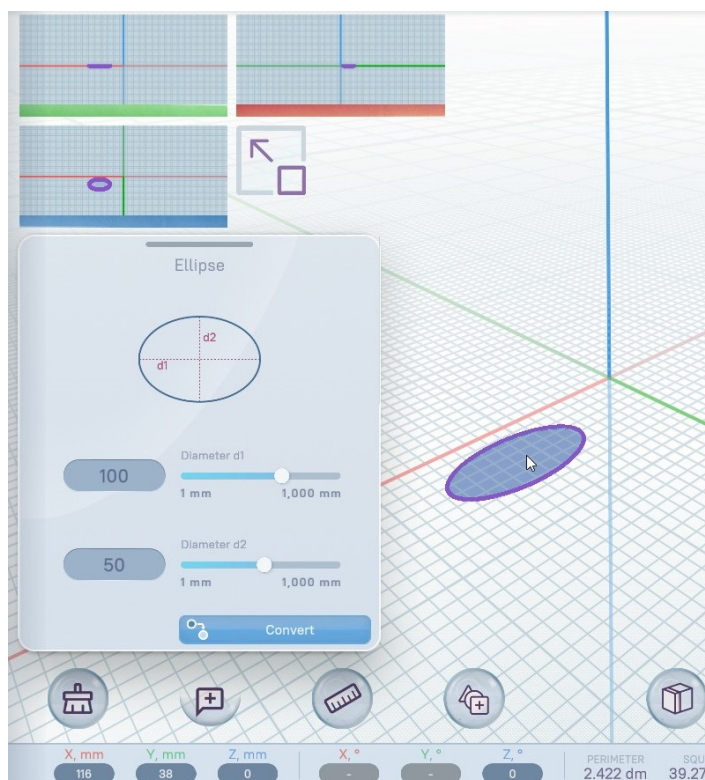

Figure 94 – Creating a sketch by clicking or extrusion
- 1) Create a sketch from the shape library by clicking or extrusion or using the **Spline** tool (Figure 94).